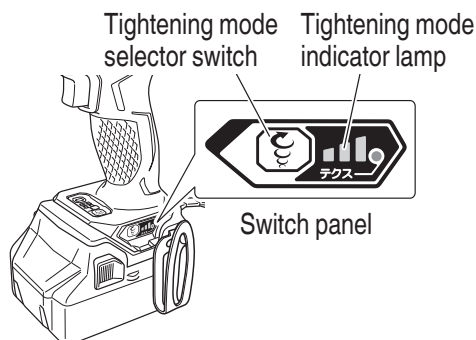

Fig. 12
- (1) Tightening mode selector switch (**Fig. 12**)